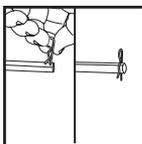

FIGURE 2
3. Place one hair pin in one end of the axle. **FIGURE 2.**